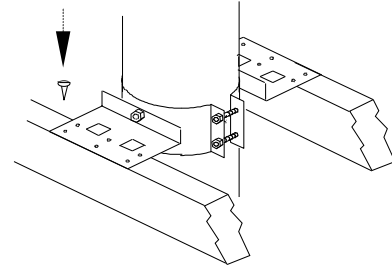

Figure 32
Step 2. Slip the support down over the stainless steel chimney until its brackets rest on the roof or floor. Tighten the collar around the chimney, then secure it by screwing the four 1/2" metal screws (supplied) through the holes located on each side of the collar bolts and into the chimney (**Figure 32**).